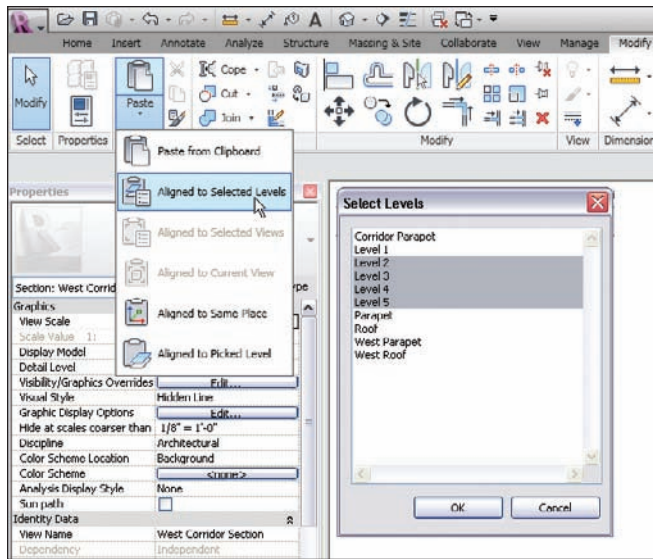

FIGURE 4.50 The Select Levels dialog allows you to choose to which levels you are pasting the information.
5. On the Clipboard panel of the Modify | Multi-Select panel, expand the Paste tool, and then click Aligned To Selected Levels, as shown in Figure 4.50.
6. In the next dialog, select Floor Plan: Levels 2 through 5, as shown in Figure 4.50.